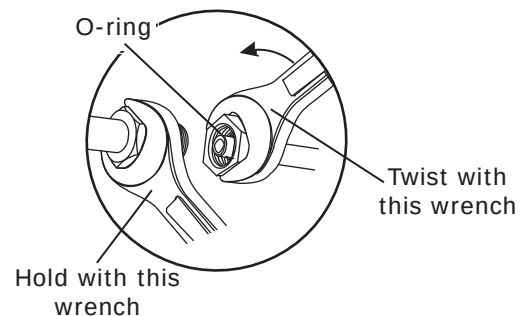

**Figure 1**
1. Remove the dash pad, instrument panel, passenger side panel and lower passenger side dashboard (retain screws) (See Figure 1, below).
2. Remove the glove box (discard) (See Figure 1, below). **NOTE: The glove box will not fit with the evaporator unit installed. A with factory air vehicle aftermarket glove box will need to be purchased.**
3. Remove the heater assembly and all related ducting (discard) (retain screws) (See Figure 2, below). Remove the control panel assembly (retain control panel) (See Figure 1, below). **NOTE: Refer to the control panel conversion kit instructions for installation of the controls.**
1. Install the defrost duct under the dash as shown in Figure 1, below. Secure it using the OEM nuts with (3) 3/16" flat washers.
2. Hold the fresh air cap under the dash and mark the (3) mounting holes.
3. Drill (3) 1/8" mounting holes under the dash.
4. Apply a 1/4" bead of silicone around the back side of the fresh air cap as shown in Figure 1, below.
5. Secure the fresh air cap to the fresh air hole using (3) #10 x 1/2" sheet metal screws as shown in Figure 1, below.